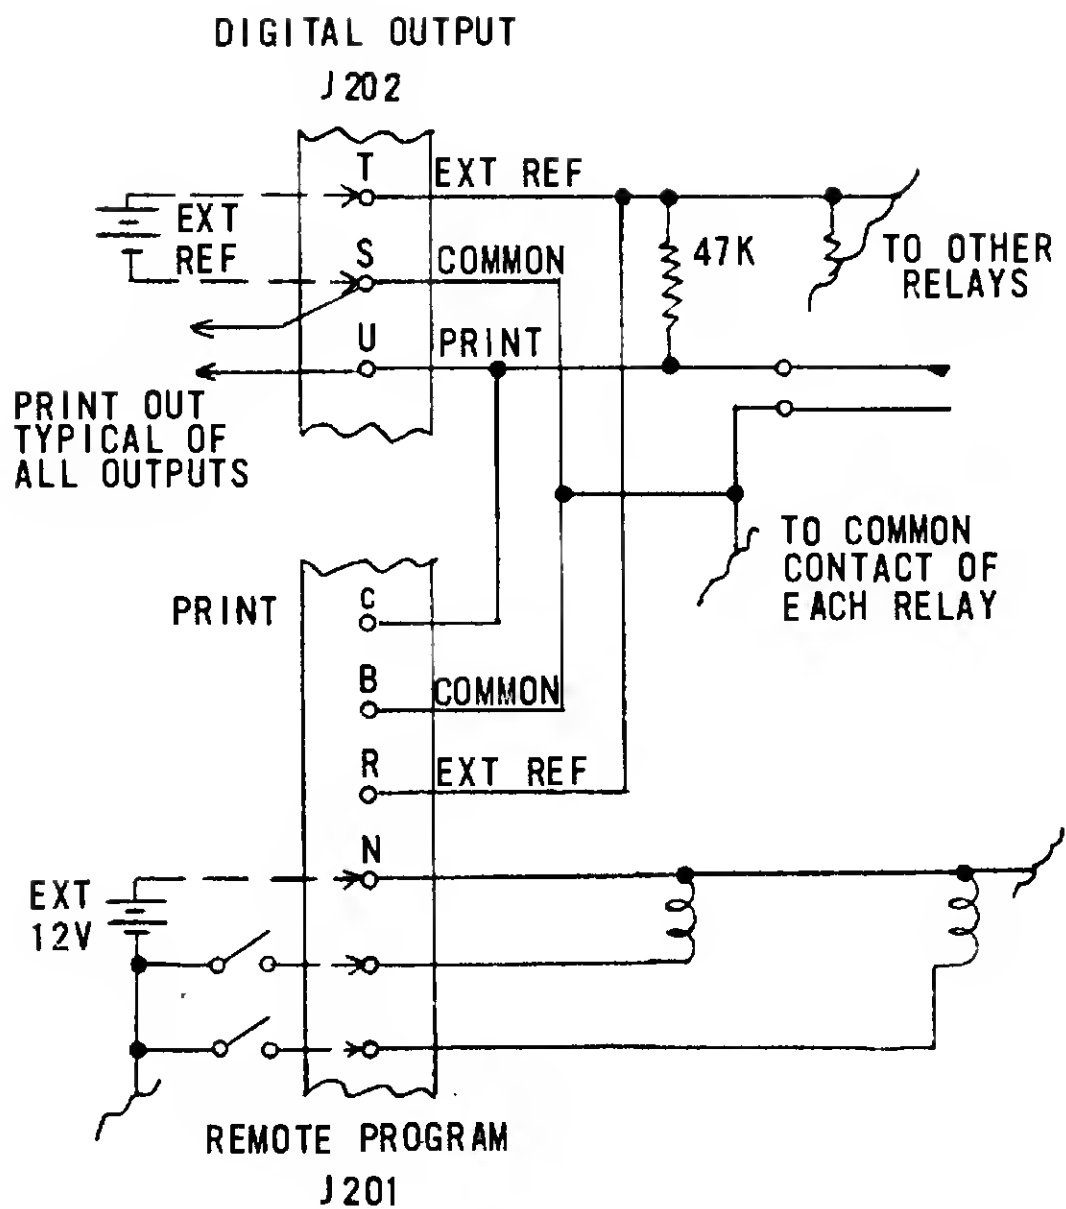

Figure 3.7. Output/Program Interconnections
the Digital Output connector and the Program Input connector (figure 3.7). Therefore, these external connections can be made at either of the two connectors.
3.37. Table 3.6 provides a list of pin assignments of the instructions that may be programmed at J201, the Remote Program connector. In order to operate the isolated relays, it is necessary to connect an external +12 volts to pin N of J201 (see Figure 3.7). An instruction is transmitted into the instrument by providing a common (to the externally supplied +12 volts) at the pin corresponding to the desired command (identified in Table 3.6). The instruction is not operative, however, unless the corresponding manual control on the